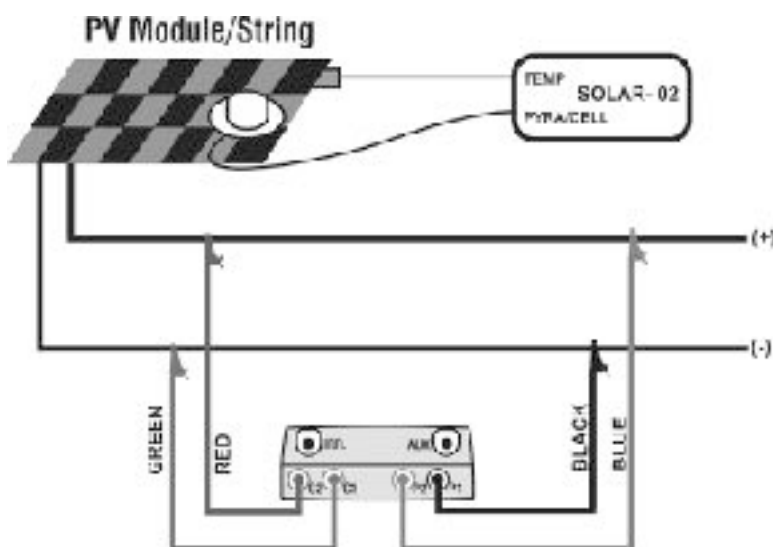

Fig.11: Connection of units to the PV module/string
22. Connect the meter to the module/string under test as shown in Fig.11. In particular, connect the negative output pole of module/string to P1, C1 input terminals and the positive output pole of module/string to P2, C2 input terminals. In **Auto** activation mode is recommended the use of KITKELVIN optional accessory